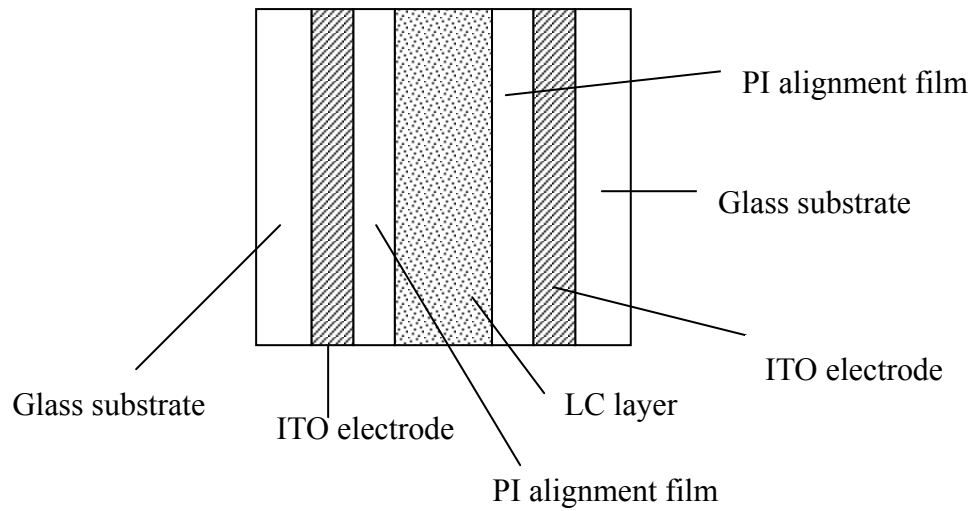

Fig. 1 LC cell structure
Liquid crystal (LC) is a state of matter that is intermediate between the crystalline solid and the amorphous liquid. The nematic LCs are organic compounds consist of long-shaped needle-like molecules. The orientation of the molecules can be easily aligned and controlled by applying an electrical field. Uniform or well prescribed orientation of the LC molecules is required in most LC devices. The structure of the LC cell used in this experiment is shown in Fig 1. Rubbing the polyimide film can produce a well-aligned preferred orientation for LC molecules on substrate surfaces, thus due to the molecular interaction the whole slab of LC can achieve uniform molecular orientation. The local molecular orientation is called the director of LC at that point.